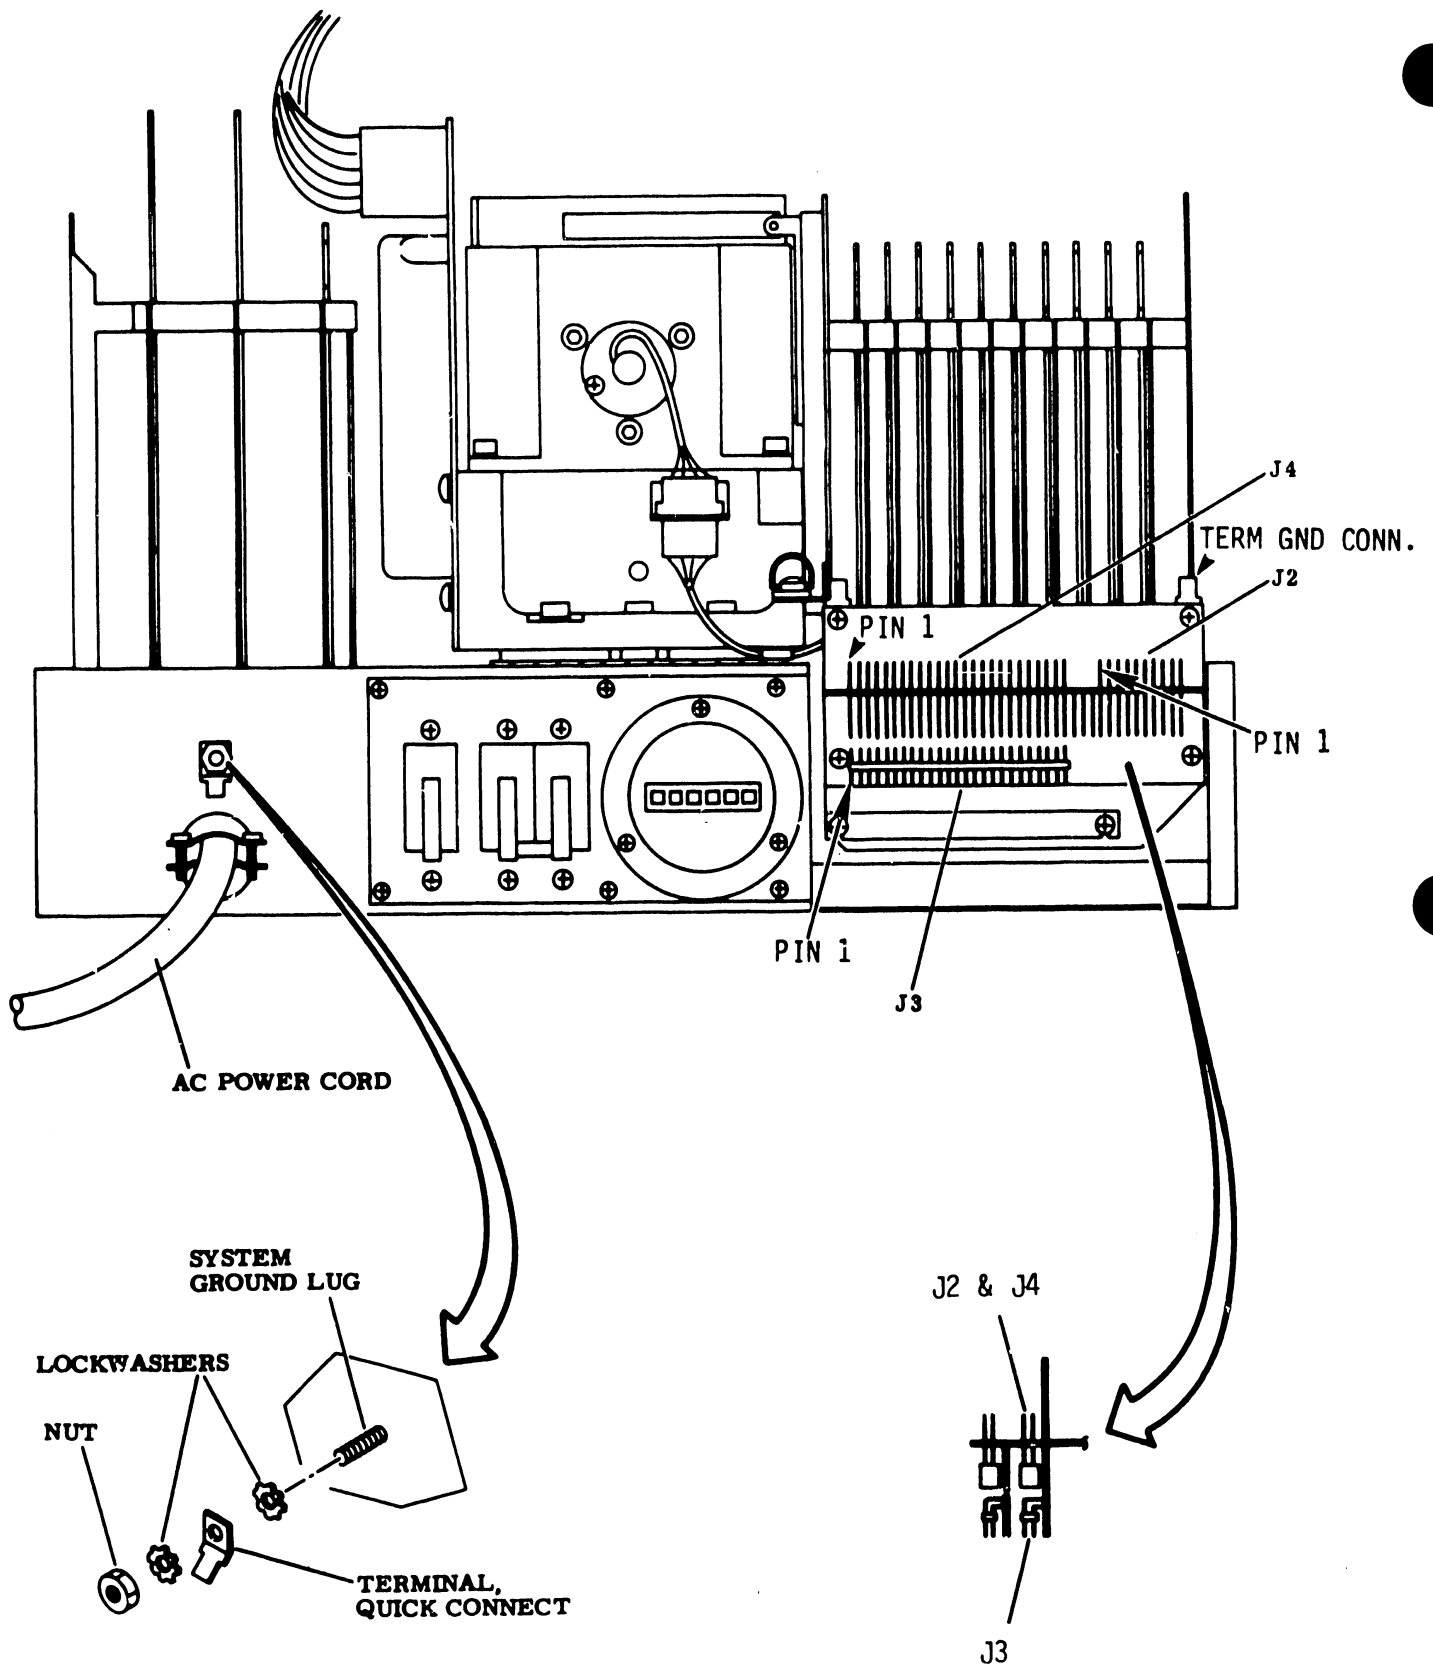
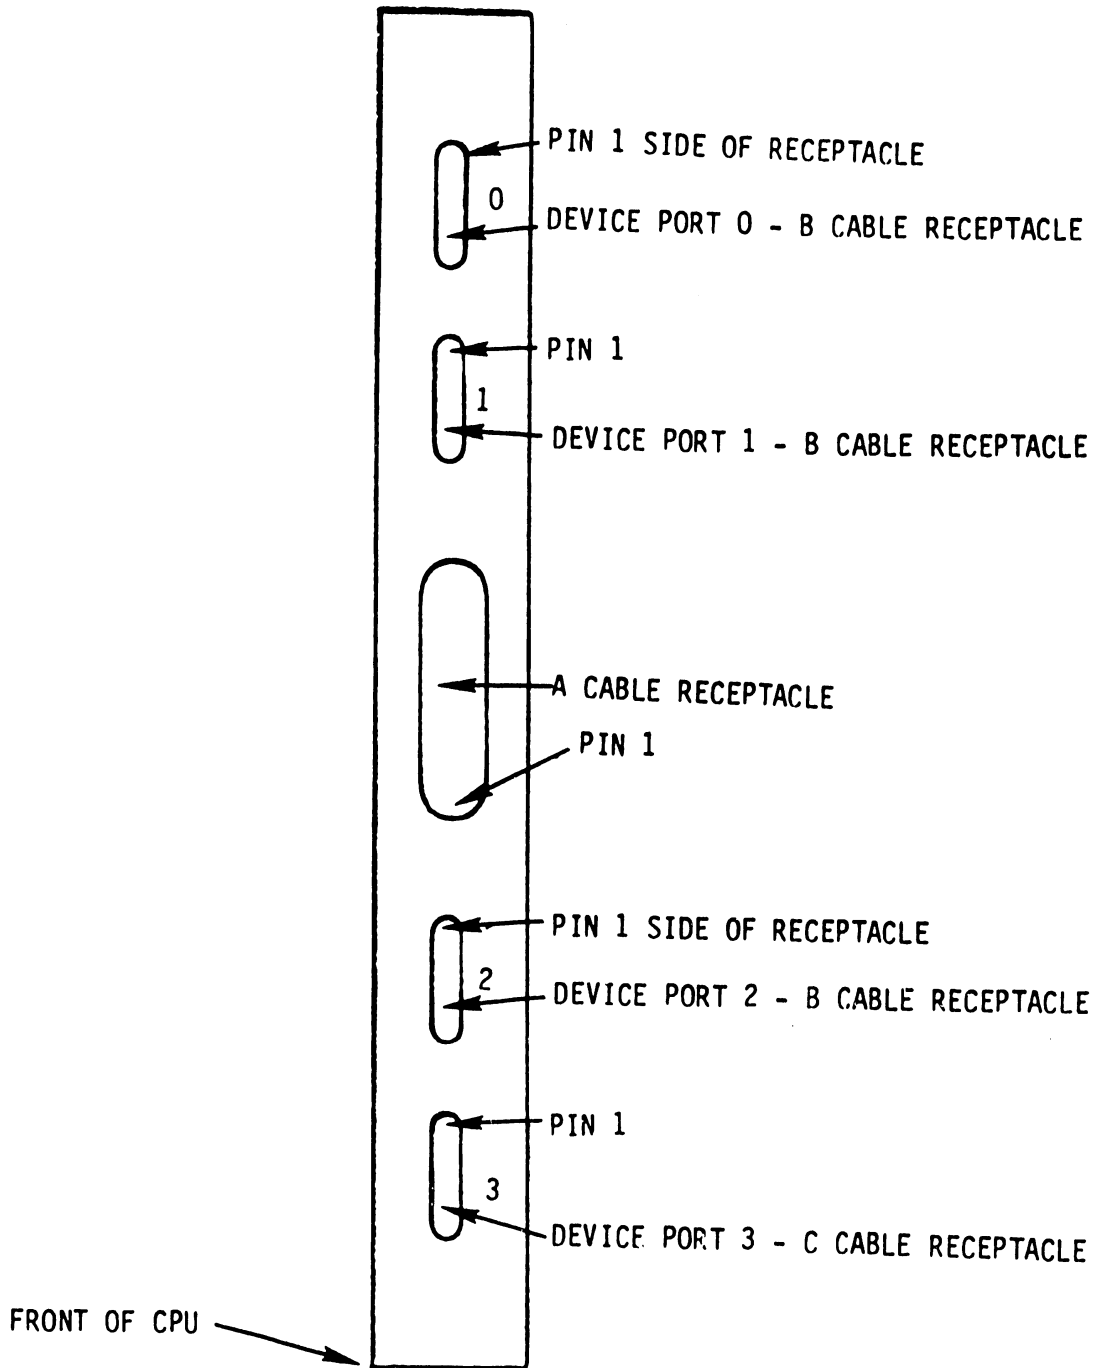
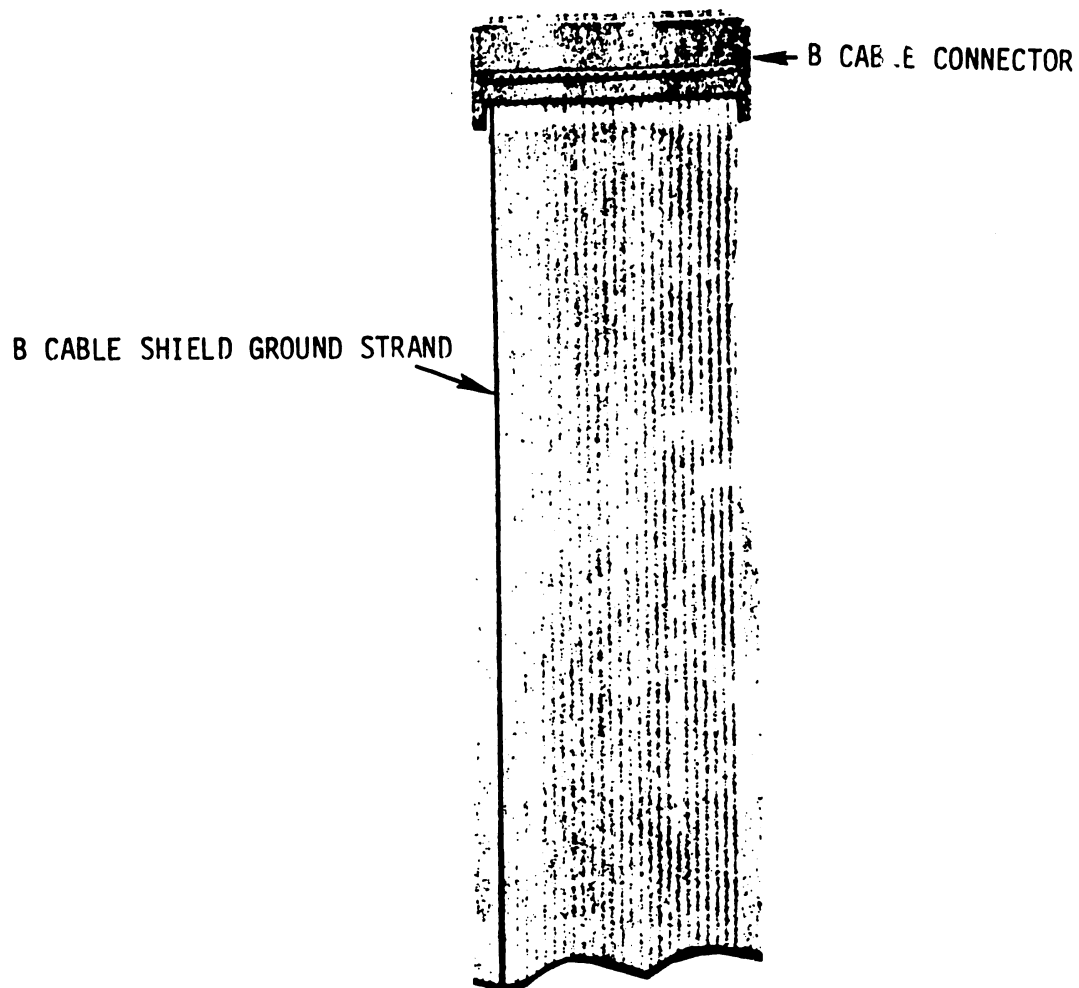

FIGURE 4-9 CABLE INSTALLATION - PARTS LOCATION VIEW
FIGURE 4-10 TOP VIEW OF 22V03/04 IOP
FIGURE 4-11 "B" CABLE
1. Attach the 15 ft. "A" cable (PN 220-3041) to receptacle J3 at the rear of the disk drive (see Figure 4-9).
Since the "A" cable is not keyed, caution must be exercised to ensure its proper installation. Make certain that pin 1 on the disk side of the cable matches pin 1 on the 22V03/04 card. Use wire colors to accomplish this. For example, twisted pair brown/black is attached to the pin 1 side of the disk drive connector (Figure 4-9). Attach the same color twisted pair (brown/black) to the pin 1 side of 22V03/04 card (Figure 4-10).
3. Attach the 15 ft. "B" cable (PN 220-3033-1) to receptacle J2 at rear of the disk drive, making certain that cable shield ground strand (see Figure 4-11) is attached to the pin 1 side of J2 (Figure 4-9).
4. Attach the other end of the "B" cable to the port '0' receptacle on the 22V03/04 card in the processor mainframe, making certain that the "B" cable shield ground strand is on the pin 1 side of the receptacle (Figure 4-10).
- B. If no other disk drives are to be attached to the system, install terminator card (PN 210-7177) in receptacle J4 on the disk drive. Attach the terminator ground lead to the terminator ground connector at the rear of disk drive (shown in Figure 4-9).
- E. Attach the system ground lead from the bolt on Processor Mainframe (shown in Figure 3-2) to the system ground lug on the back of the disk drives (Figure 4-9). If more than one drive is attached to a 22V03/04 IOP, attach the system ground lead in daisy chain fashion from one drive to the next.